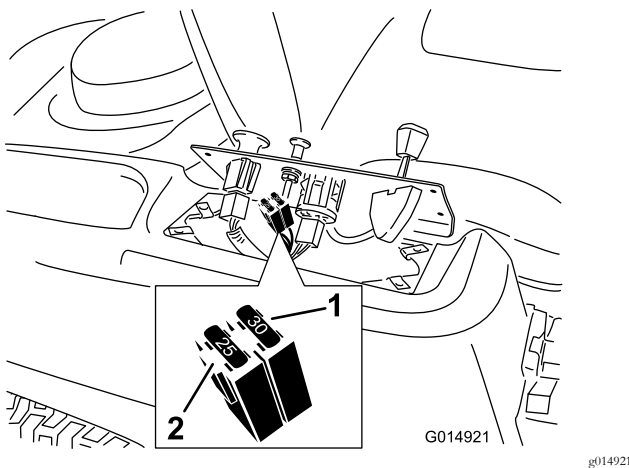

Figure 53
2. Lift the control pane up to access the main wire harness and fuse block (Figure 53).
3. To replace a fuse, pull out on the fuse to remove it (Figure 53).